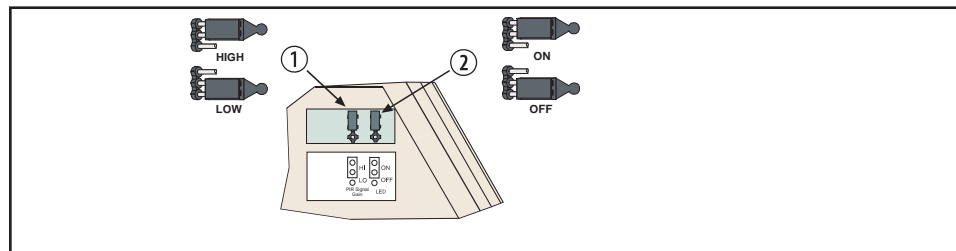

Figure 5.1: Feature Selection
Refer to Figure 5.1. For selection, place the plug across the appropriate pins (1). No jumper across the “HIGH/LOW” pins puts the detector in a “High” setting. Low Sensitivity (LO): The recommended setting for most installations. This setting tolerates environment extremes. **The detector is shipped in Low Sensitivity mode.** High Sensitivity (HI): Use in locations where adequate catch performance is not achieved in the Low Sensitivity mode. This setting tolerates only minor environmental changes.
Refer to Figure 5.1. The ON position allows operation of the LED (2). If LED indication is not desired after setup and walk tests are completed, place in the OFF position. **No jumper across the “ON/OFF” pins disables the LED.**